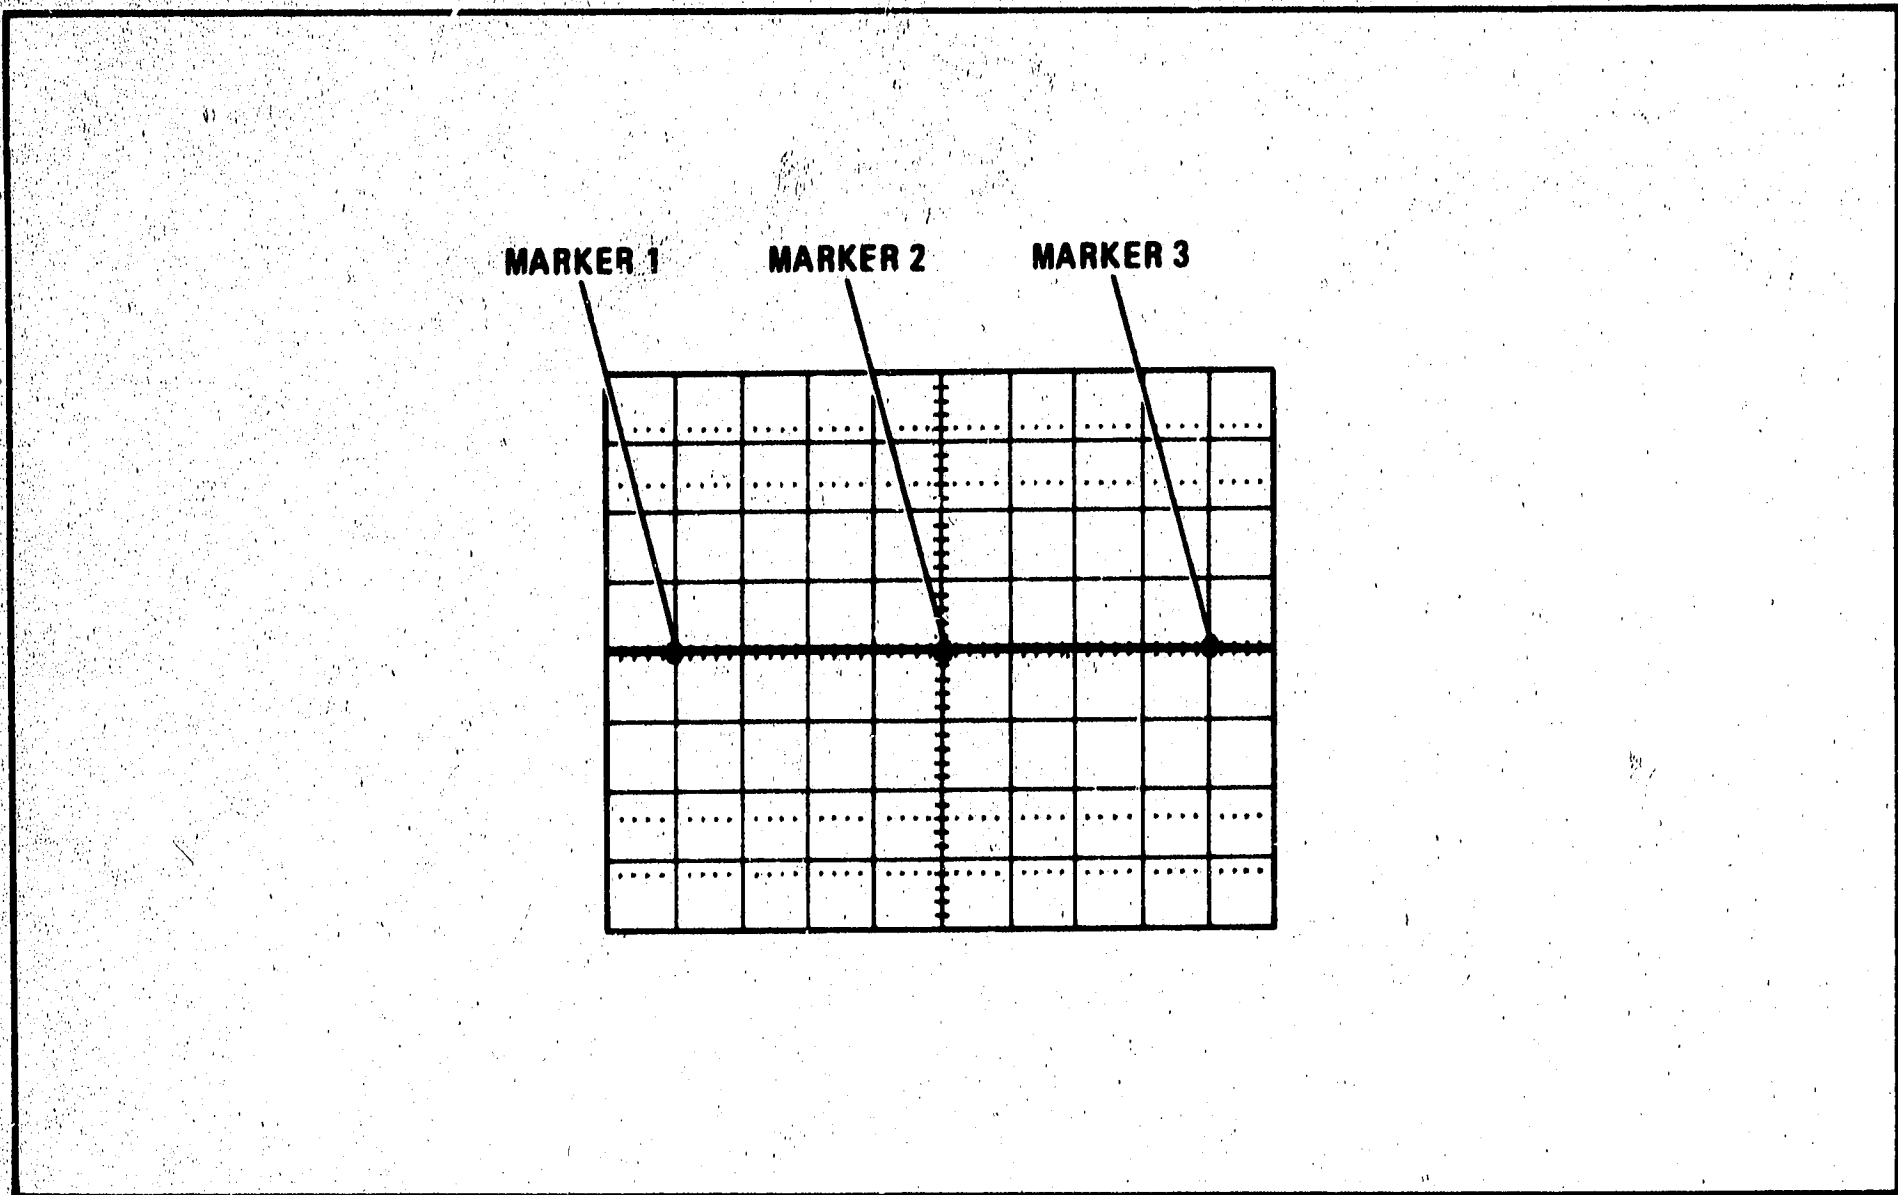

Figure 5-3. 8350A Marker Display With 8750A in BYPASS Mode
9. On the 8350A, press M1. An intensity spot should appear at the center of the screen. Rotate the RPG below the 8350A FREQUENCY/TIME display to set this Marker 1 exactly on the first graticule to the right of the left-most graticule. Press M2 and rotate the RPG to set Marker 2 on the first graticule to the left of the right-most graticule. Press M3 and set Marker 3 to center screen. The display should now look like Figure 5-3. If it does not, a possible sweep linearity problem may exist. Refer to the troubleshooting procedures in Section VIII of this manual if there are any adjustment problems.
16. On the 8750A, press BYPASS and adjust the 8755C Channel 1 DISPLAY REFERENCE POSITION screwdriver adjustment to move the trace back to the center graticule, as shown in Figure 5-3.